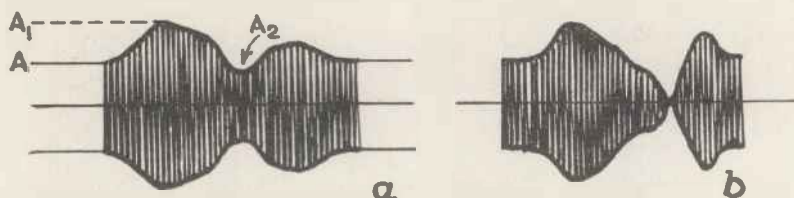
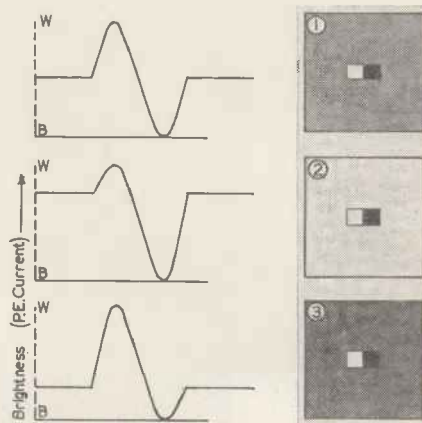

Fig. 1. An ordinary modulated carrier wave (a) and a carrier wave modulated 100 per cent (b).
Fig. 2. A simple black and white pattern scanned with different brightness of background showing change in photo cell current.
In the course of experimental work two of these methods were found to be of special interest. The first of them will be explained by the following in conjunction with Figs. 1 and 2 and referred to briefly as the "flash light" method; the second is based on the optical combination of two supersonic cells (Figs. 3, 4 and 5) and represents the "two-cell" method.
In Fig. 1 a wave train, produced by the picture signals of a whole line, and existing in the supersonic cell (A) is illuminated for a very short time by light passing through the Kerr cell (B). The picture lines are each in turn projected on to the screen by flashes from the Kerr cell. The efficiency of this arrangement may be enormously increased by employing a high pressure mercury lamp flashing in sympathy with the Kerr cell. In the ideal case when the light flashes only for the duration of a picture element, the Kerr cell is unnecessary.
A mirror oscilloscope placed at the bar D (Fig. 2)† and synchronously oscillating with the line frequency may be used to compensate the movement of the line across the screen. This is analogous to the "follow-up" principle used by Scophony with the high speed polygon. The amount of compensation is not limited in the case of the tuned oscillating mirror but is variable since the amplitude of swing of the mirror may be varied. Moreover, any instability in synchronism is visible not as a wobbling or slipping of the picture but only as a lack of definition. Although the oscillation of the mirror is sinusoidal, only that portion of its swing where its velocity is sensibly constant (i.e., approximating to its mean position) is used in conjunction with a "flashing" light. Full definition may still be maintained even with a light source flashing for a duration of seven or eight microseconds.
Fig. 1.—This drawing shows the scheme for the new stroboscopic (wave and slot) television method. The Kerr cell B, acting as a shutter, projects an immobilised image of the wave-train in A by a flash of illumination at the end of each line period.
Fig. 2.—The momentary illumination can be effected with the light source (C) itself, the whole of the light energy being concentrated in a short time interval, determining the rough definition. By the small oscillatory movement of D the full definition is attained.
The light efficiency of the two cell method (Fig. 3) is inversely proportional to the number of elements in a line. This can be overcome with the flash light method, but the research work concerned with the development of the corresponding light sources for the simple method of Fig. 1 meets with certain difficulties. To get the full sharpness with this simple method the duration of illumination must be restricted to a fraction of a microsecond. The design of the present apparatus is therefore based on the modified form, Fig. 2, where neither the light efficiency nor the sharpness is dependent on the number of lines (definition) used.
We can then make the height of the carrier proportional to the brightness of the scene, so that maximum height will give maximum brightness and each tone of the picture is associated with a definite value of carrier amplitude. This is the system which is known as "D.C. working" and to understand it better we can take the simple case of a black and a white square outlined against a background of varying shade, as in Fig. 2.
Fig. 2 the variations will be applied to the grid, but the D.C. potential will not.
In each case we have a pulse rising or falling from a steady value, and we can represent this as an alternating current superimposed on a direct current, the value of the direct current corresponding to the brightness of the background. The alternating current conveys the variations in the individual parts of the picture: the direct current conveys the intensity of illumination of the scene. Without it there would be nothing by which we could convey the brightness of the scene as a whole, although the individual variations in the scene could be transmitted as an ordinary modulation of the carrier wave as Fig. 1.